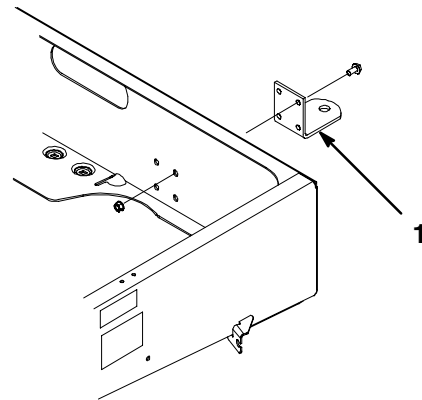

Figure 7
1. Remove the (4) screws and nuts from the inside rear of the frame.
2. Align the hitch with the mounting holes on the frame. Secure the hitch with the screws and nuts (Fig. 7).